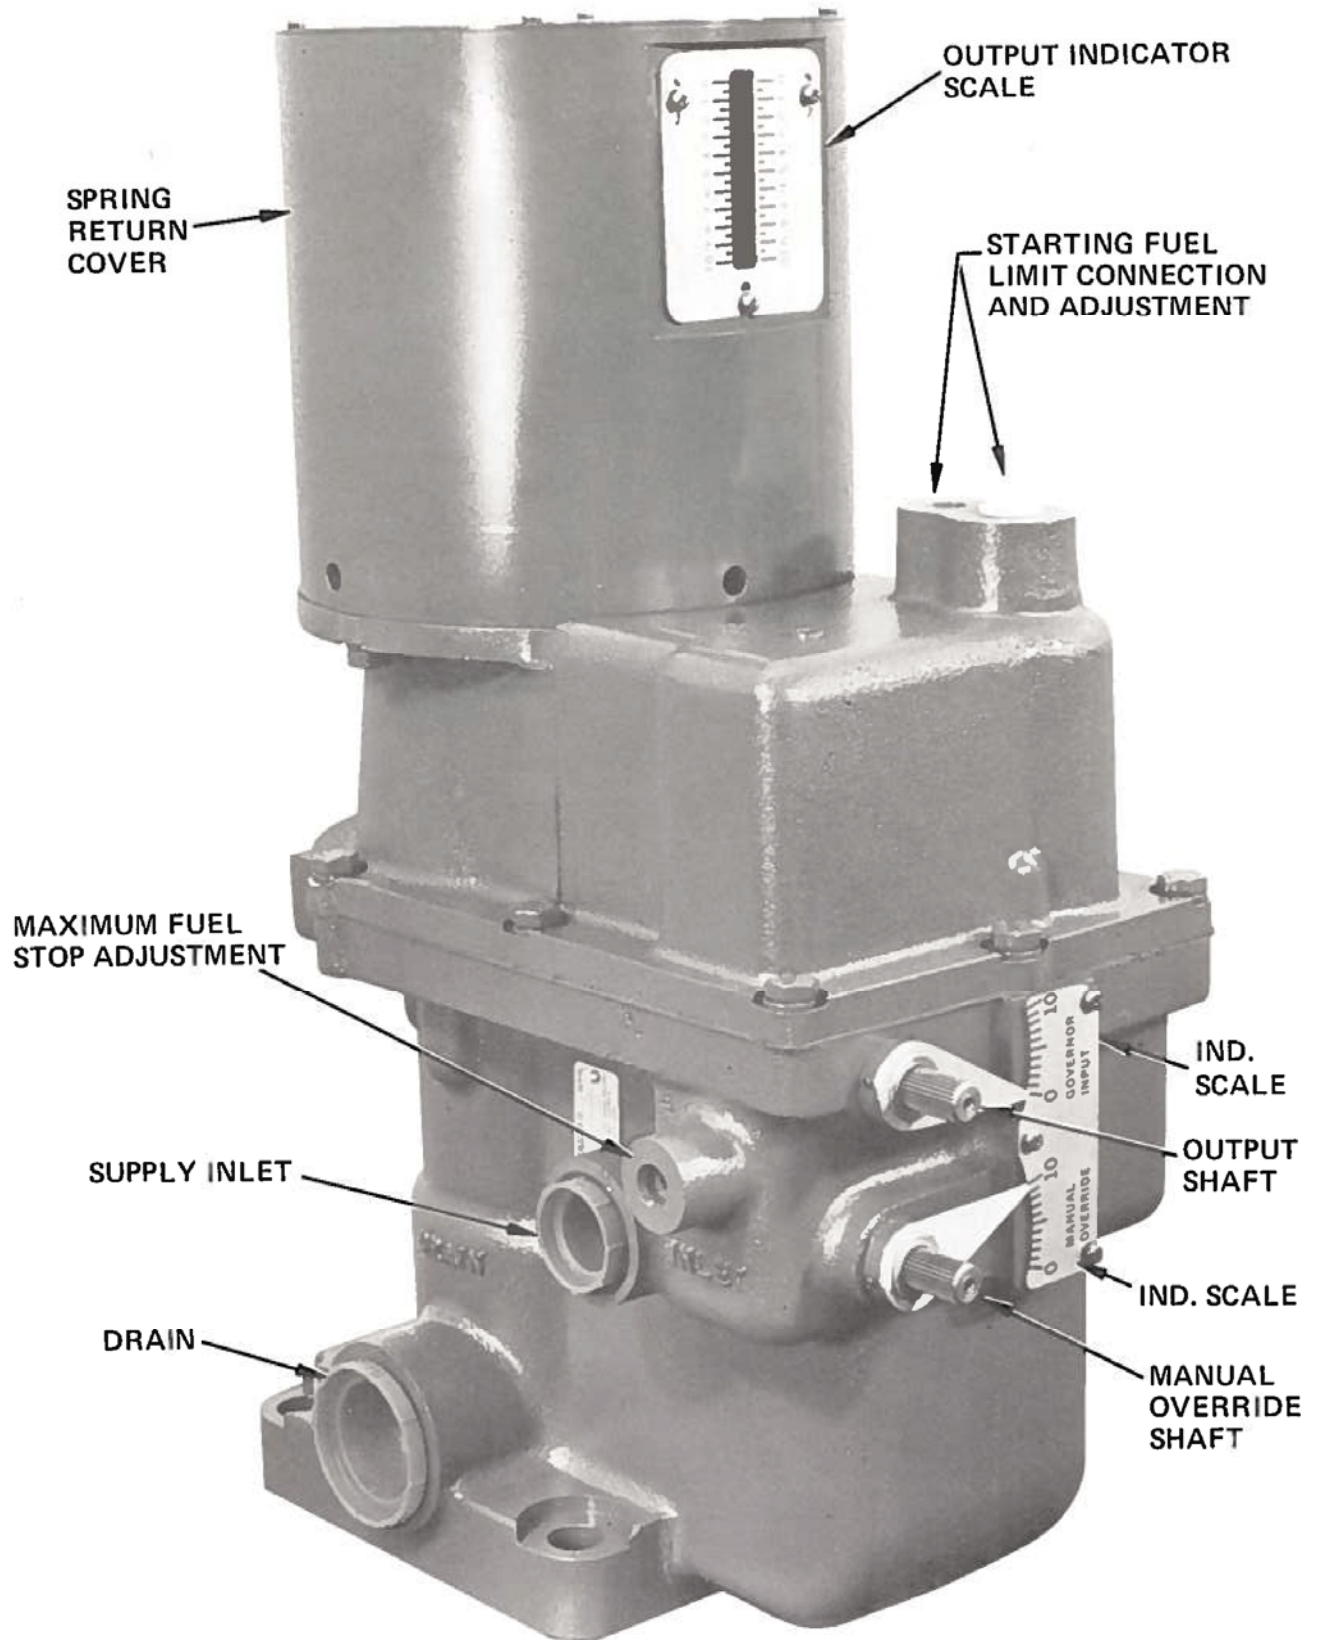

Figure 1-1. 85 mm Hydraulic Amplifier with Spring Return
Refer to the outline drawing, Figure 1-1, for (1) overall dimensions, (2) mounting hole locations, (3) hydraulic fitting sizes, (4) input and output shaft dimensions, and (5) amplifier adjustment locations.